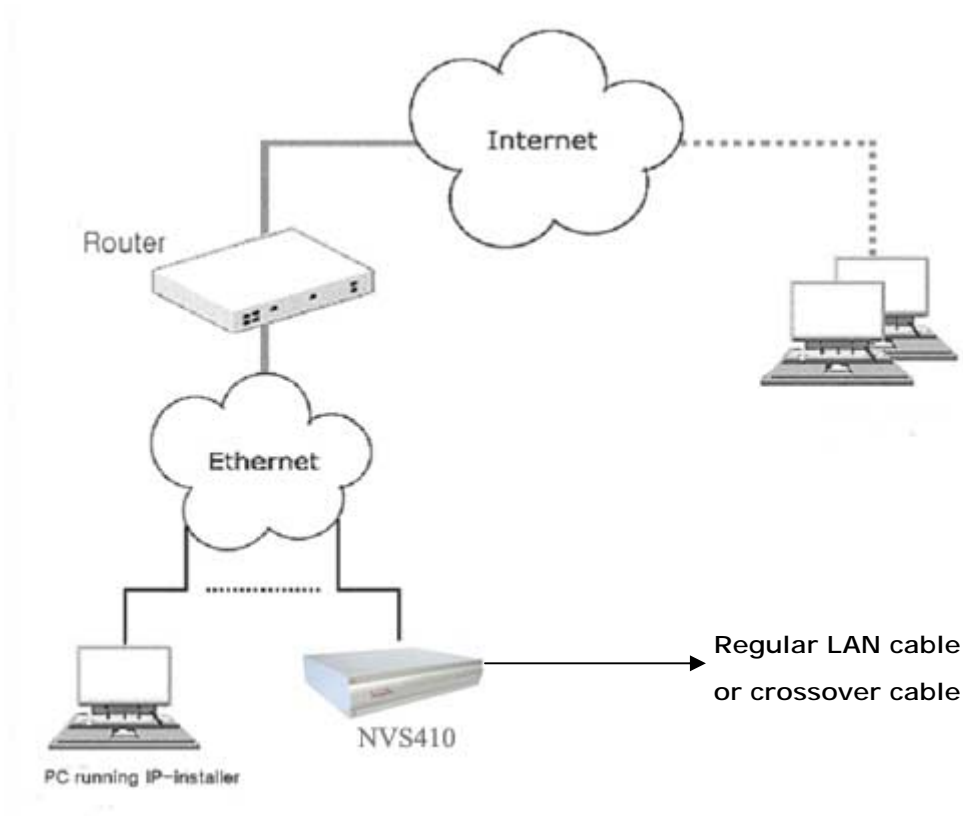

Figure 3-5 Connecting the NVS410 to a Cable Modem
3. Remove the crossover cable and connect the NVS410 to the network using standard LAN cable as shown in Figure 3-5. Check if you can receive video using the viewer program.